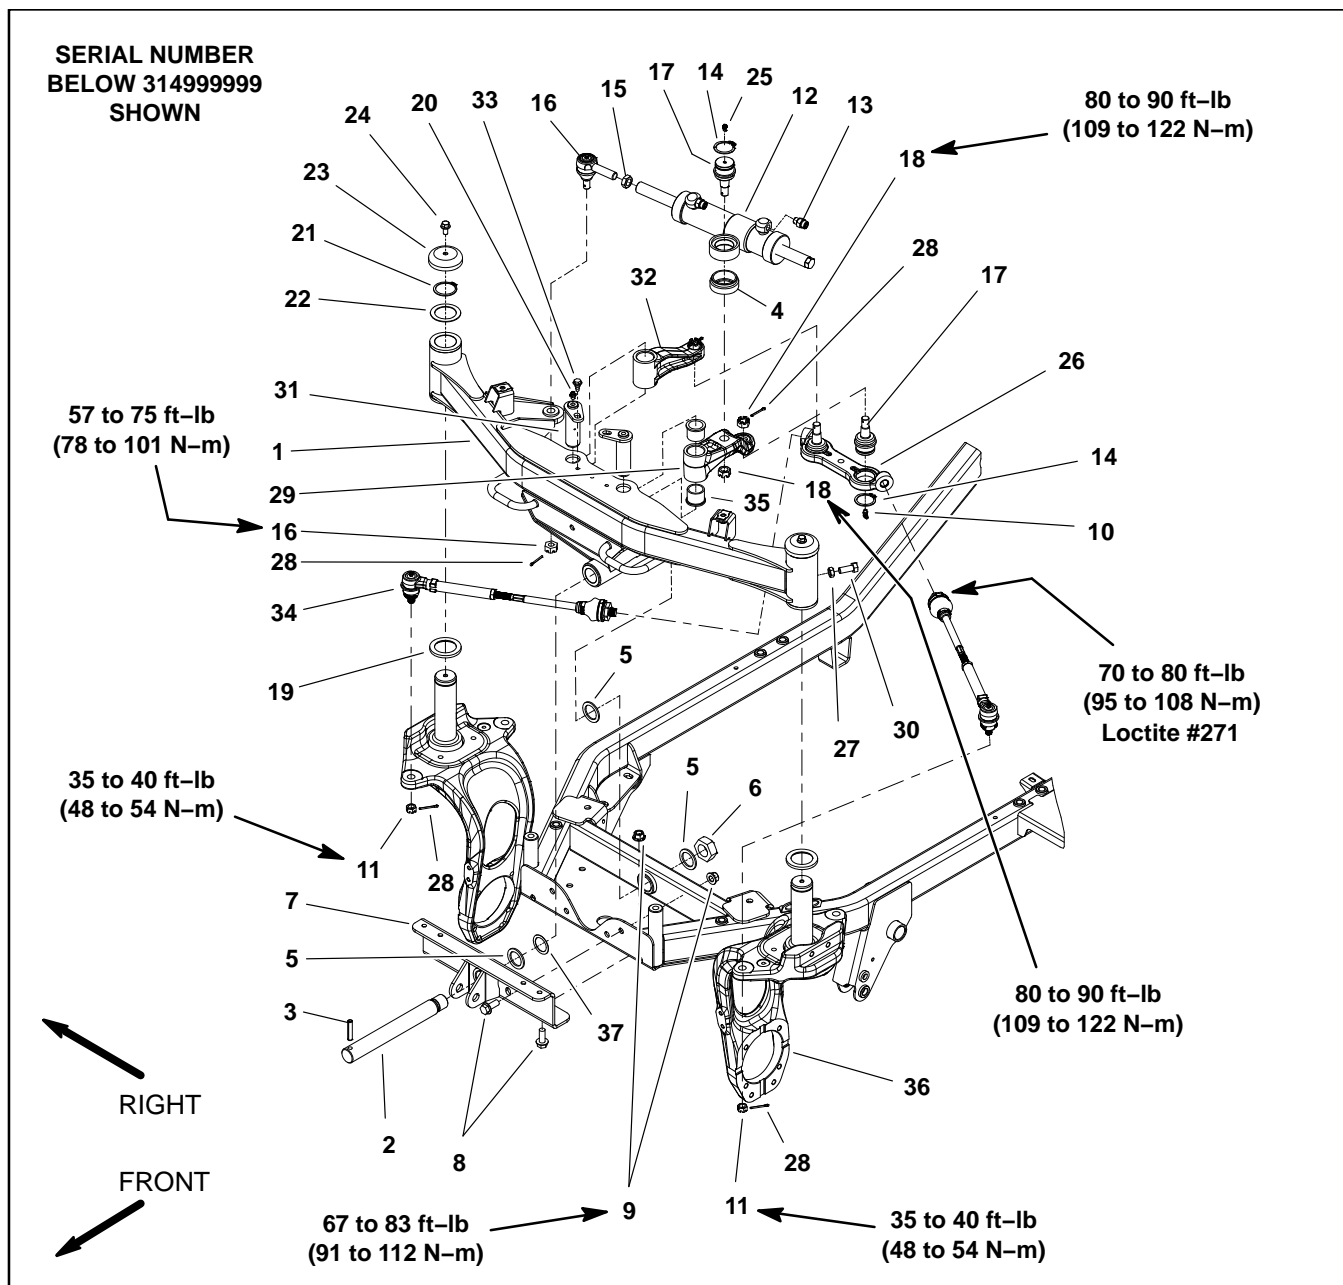
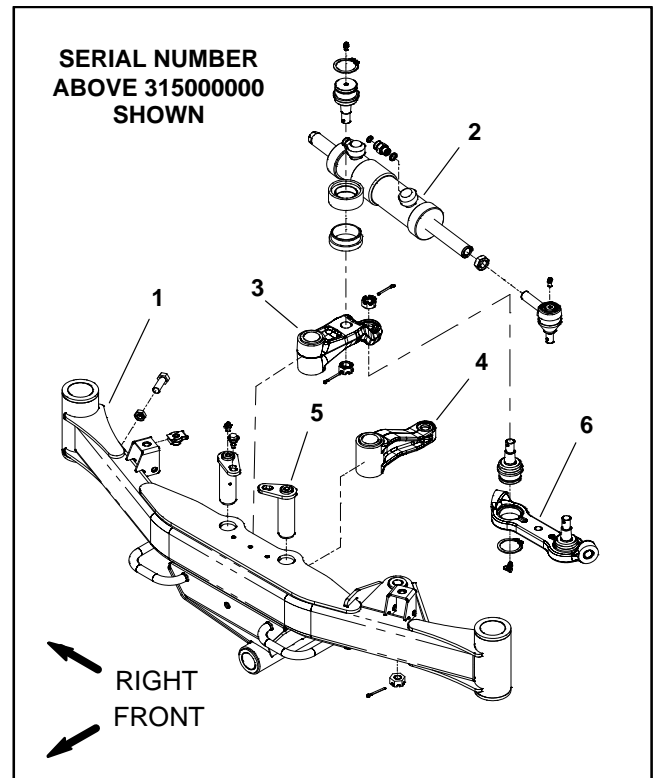
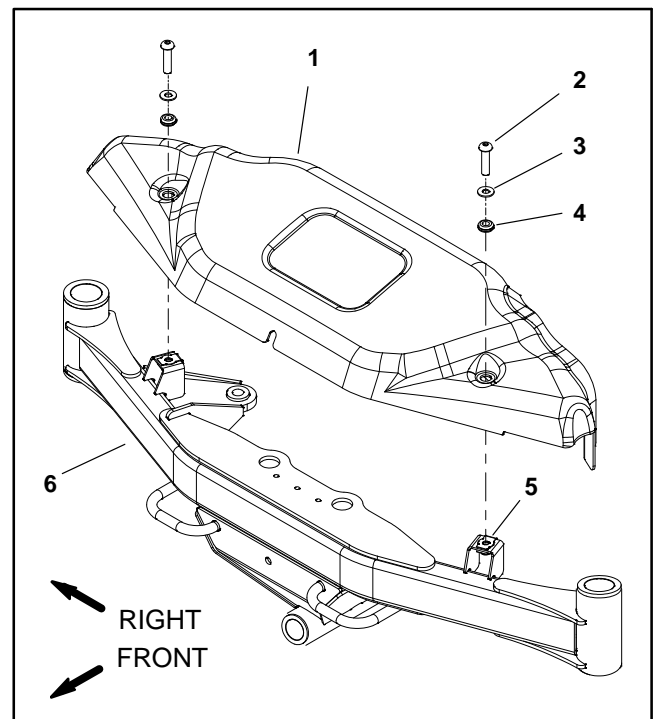
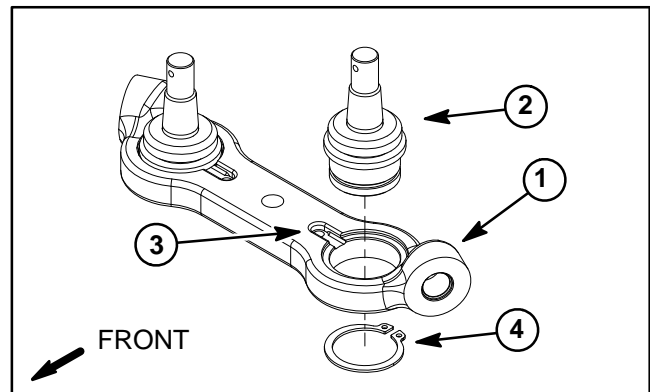

Figure 29
Figure 30
Figure 31
Figure 33
NOTE: The front axle steering cylinder on machines with serial numbers above 315000000 is installed in the reverse direction of machines with lower serial numbers. Figure 30 shows the cylinder orientation for machines with the higher serial number. Use the following procedure and torque specifications identified in Figure 29 when servicing the front axle on all Groundsmaster 360 machines.
Disassembly (Fig. 29)
2. Remove front cover from front axle to allow access to front steering components (Fig. 31).
8. To remove tie rod (item 34) from machine:
9. Remove additional front steering components as necessary using Figure 29 as a guide.
10. If bushings in the front axle (item 5 or 6 in Fig. 31), front axle LH arm (item 29 in Fig. 29) or front axle RH arm (item 32 in Fig. 29) are worn or damaged, replace bushings (see Steering Assembly Bushing Service in this section).
Assembly (Fig. 29)
1. Install all removed front steering components using Figure 29 as a guide. Note torque specifications identified in Figure 29 during assembly. If front axle was removed from frame, use washers (item 37) so axle has less than 0.030" (0.76 mm) free play between frame and axle support. If ball joints were removed from center link (item 26), press new ball joints into center link from the side of the link that has a notch at ball joint bore (Fig. 33).
2. To install tie rod (item 34) to vehicle:
8. Install front cover to front axle (Fig. 31).